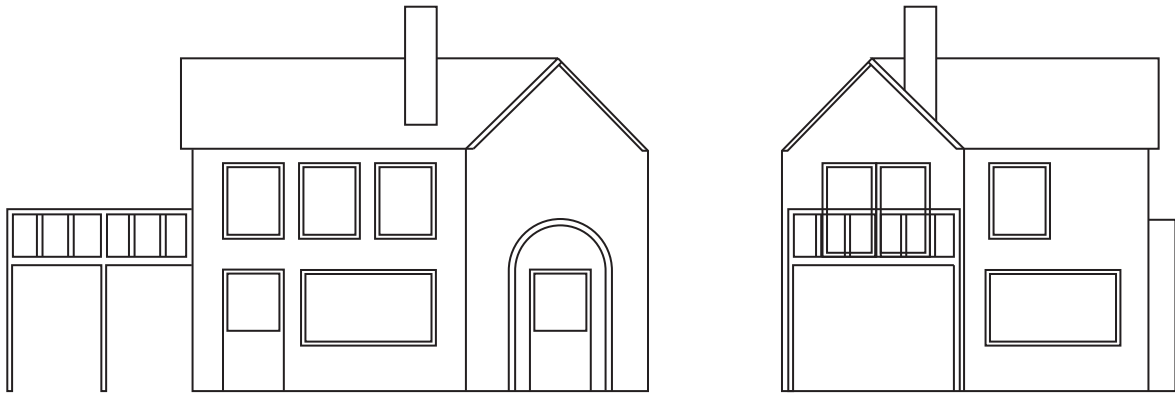

Fig. 8
- 9 Fig. 8 shows a design for a house on a new housing development.